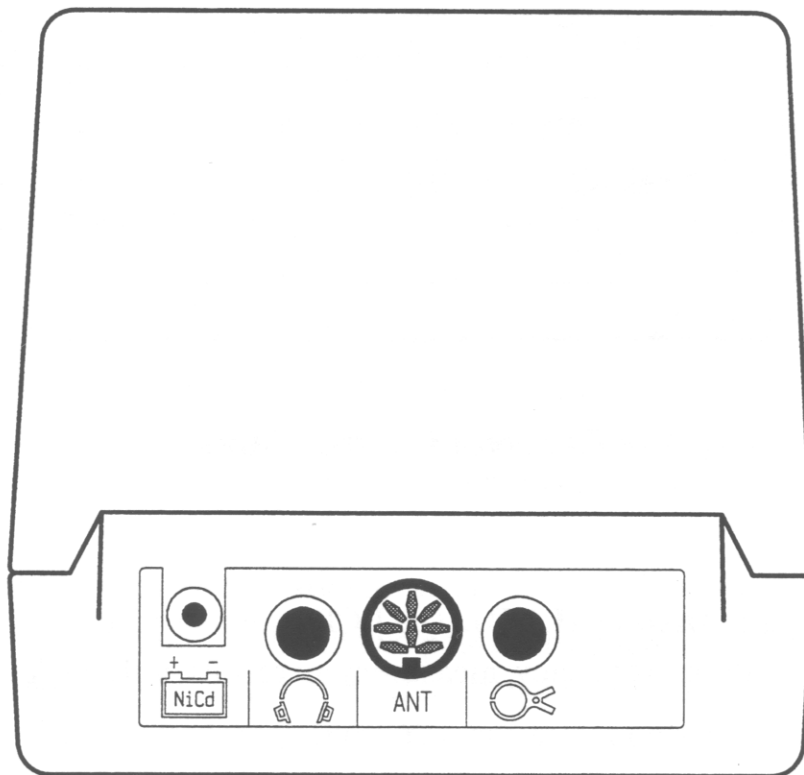

Fig. 1-7 Receiver Jack Panel
2.6 On the front of the Receiver is a connector panel with four jacks (refer to Fig. 1-7). The large jack (marked ANT) is an eight-pin DIN connector for the antenna. Two cables are available for connection to this jack; use the short one when the antenna is mounted to the Receiver and the optional long one when the antenna is used separately. Both cables have a right angle plug on one end that attaches to the Receiver. The other jacks on the connector panel are clearly marked and include: